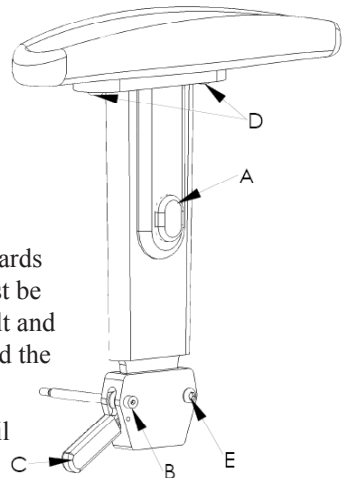

Figure 2
- c. Securely tighten the cantilever arm to the wheelchair with two locknuts and washers (B in figure 2).
- ii. Remove the locknut that secures the locking pin to the arm adjustment plate (C in figure 2).
NOTE: Arm angles are displayed in figure 2 for a back at 90°, they vary by 6°, also the pins cannot occupy adjacent holes (i.e. both 90° and 96°).
- a. Remove fasteners securing the cantilever arm assembly to the back cane (item B as shown in Figure 2).
- a. Remove the mounting screws from the armrest pad (A in Figure 2).
- a. Attach the T-style arm rest receiver using the shoulder bolt (item B in Figure 2) and the button-head cap screw (item E in Figure 2).